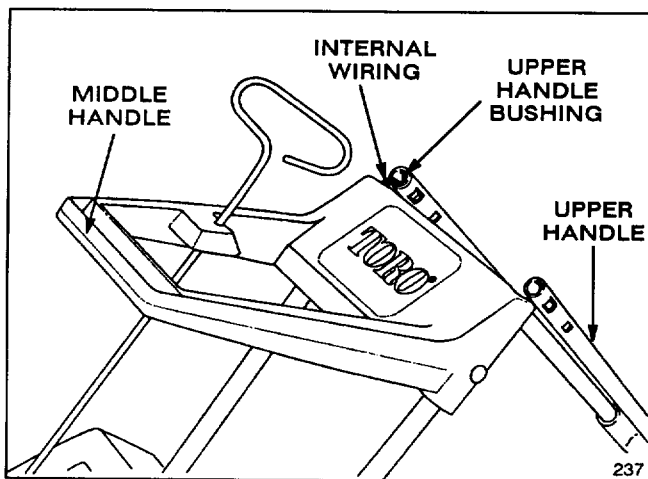

Figure 1
1. Stand snowthrower upright and position upper handle in inverted position to prepare for handle assembly (Fig. 1). Inspect the open internal wiring for damage.
**Note:** Do not remove bushing from upper handle tube (Fig. 1).